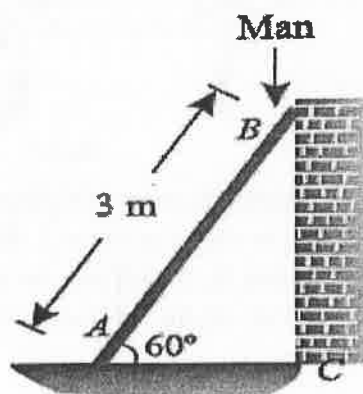

Figure 4
- b) A uniform ladder 3m long weighs 200N. It is placed against a wall making an angle of  $60^\circ$  with the floor as shown in Figure 4 below.